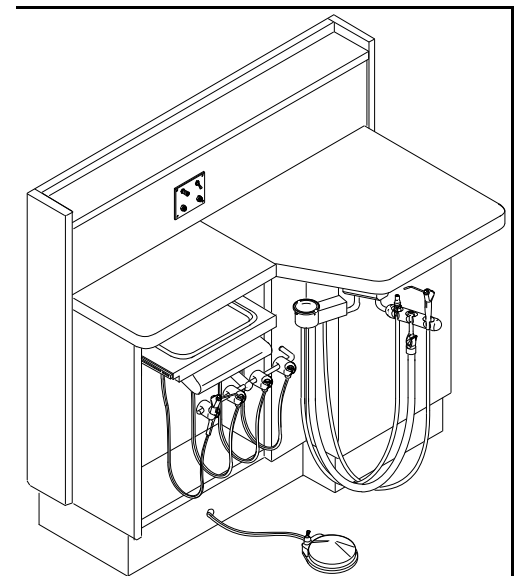

Figure 3
3. If your cabinet has pre-installed tee-nuts, attach the unit to the breadboard with four 10-24 x 1/2" screws. If you need to drill mounting holes, see figure 3 on the back side of this page.